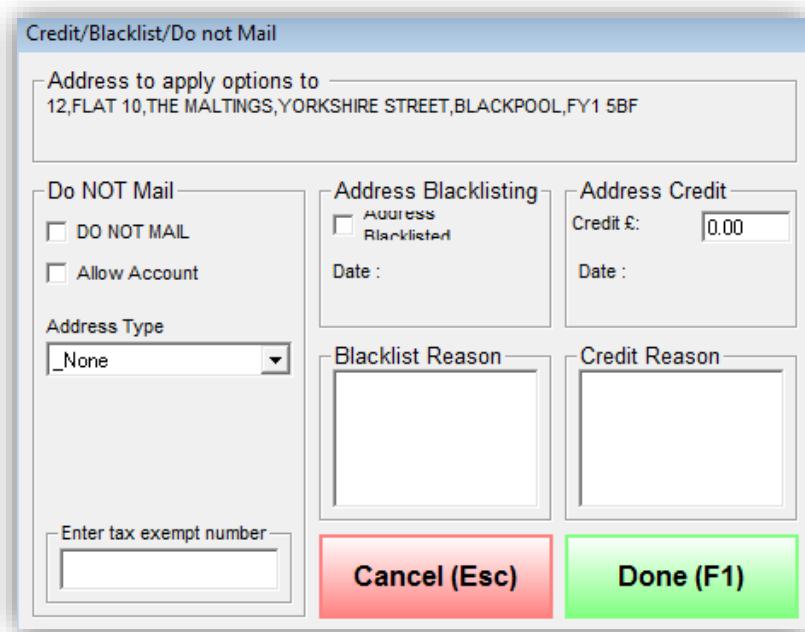

Figure 19: The Credit/Blacklist/Do NOT Mail Screen
- blacklist an address (see Fig. 19)
- disable marketing for an address (See Fig. 19 – DO NOT MAIL)